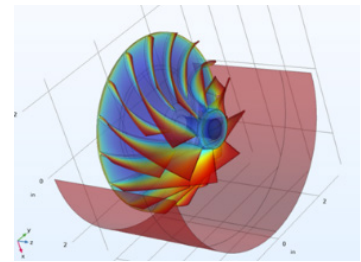

Figure 1. Acoustic Turbine Cooling
2. Complete the acoustically cooled turbine (Fig. 1).
- Complete the acoustically cooled turbine (Fig. 1).